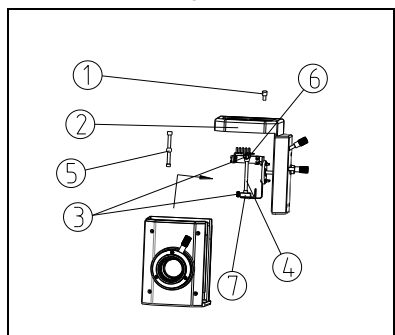

Fig.33
- (1) Loose lock-screw (1) completely by the M4 inner hexagon spanner, then take off the bulb holder (2). (See Fig. 33)
- (2) Loose the lock screw (3) of the mercury lamp first, and take off the supporting rod (4), and then insert the positive side (big end) of the new mercury lamp (5) into the positive holder (6) thoroughly; then put the negative holder (7) on the negative side (small end) of bulb and lock the screw (3). (See Fig. 33)